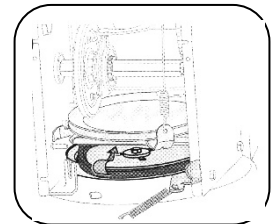

Fig.23
4. Slide the belt off the pulley and between the friction wheel and friction wheel pulley. See Figure 23.